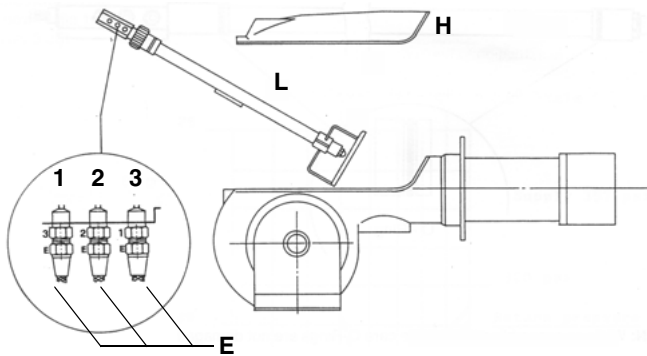
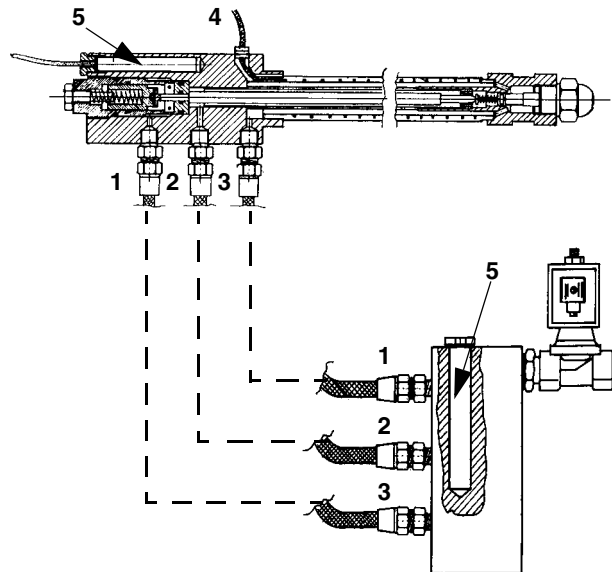

Fig. 14
Fig. 15
- Remove, clean and check the combustion head (see Fig. 14).
- Unscrew the oil connections E (Fig. 14) connecting the flexible pipes to the gun L and remove the whole assembly as shown in Fig. 14-Fig. 15.